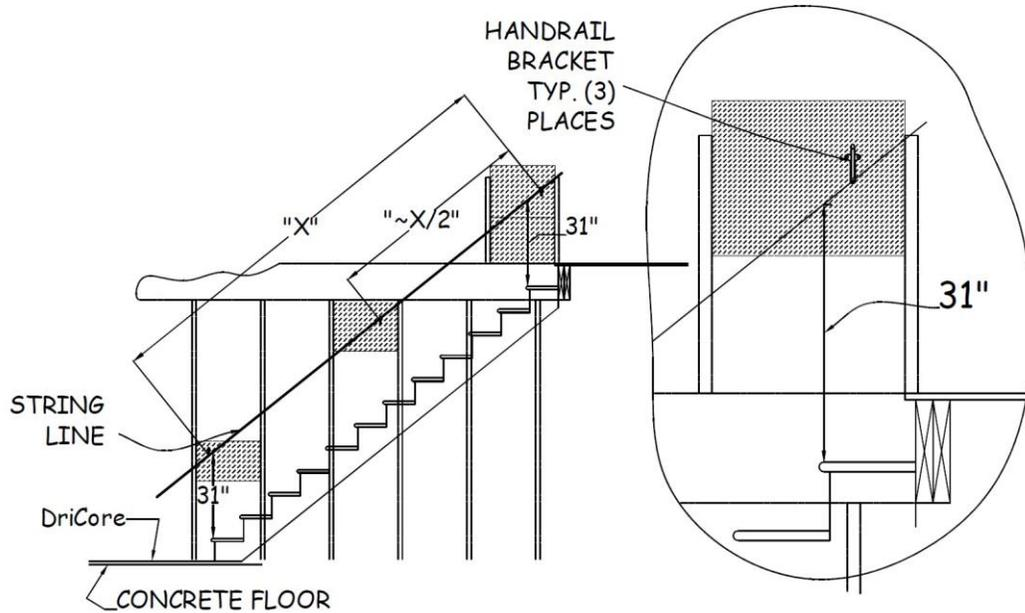

Figure 16-2. Handrail Bracket Installation.
4. Along this line, first mark the wall for locations of the top and bottom handrail brackets. Locate the top bracket 10-12" from the top end of the stairway wall and the bottom bracket 10-12" from the bottom end of the stairway wall, or from door trim if present (see Figure 16-2). Check for blocking or stud with an 8d or 2 1/2" finish nail.
NOTE: Blocking has been installed for the handrail at the top, middle, and bottom of the stairs (see Section 10.5.5 and Figure 16-2).
- angle of the template is correct, use it to mark for cutting. If not, use the adjustable bevel angle established above. This will establish Point 1 (see Figure 16-2).